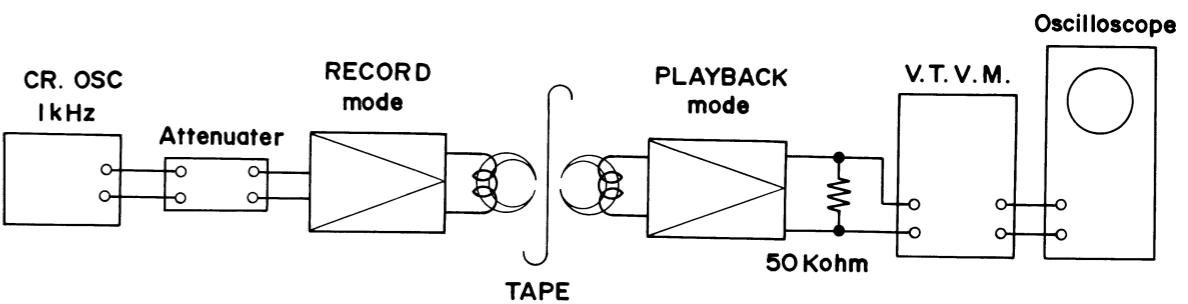

Fig. 27
9. MEASUREMENT OF TOTAL FREQUENCY CHARACTERISTIC (STANDARD TAPE) (Refer to Fig. 27)